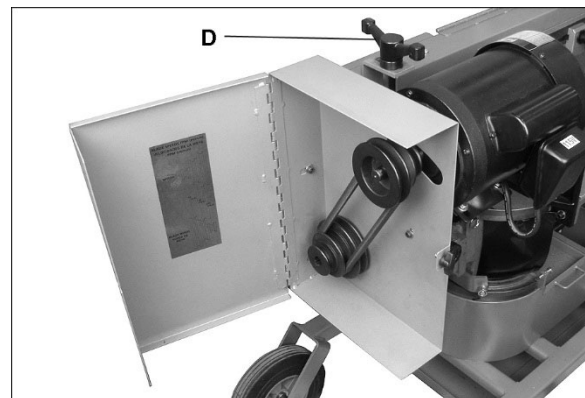

Figure 7-2: blade speed adjustment
- Open pulley box and turn handle (D, Figure 7-2) counterclockwise to release tension on drive belt.